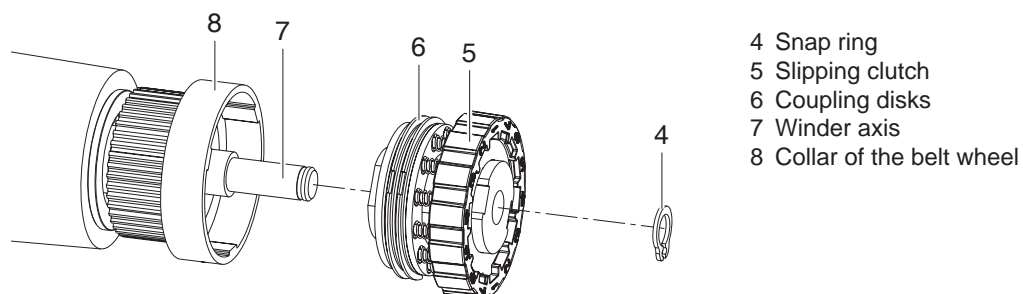
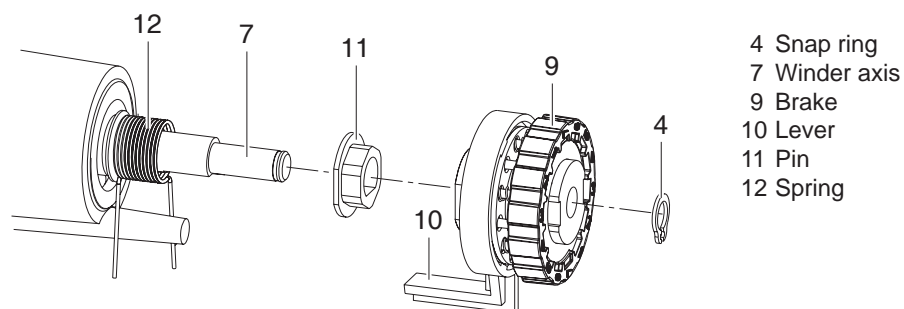

Fig. 12 Slipping clutch on the rewinders
Fig. 13 Brake on transfer ribbon supply hub
3. Remove the snap ring (1).
4. Pull coupling or brake (2) from the winder axis (Item 5 in Fig. 12) or (Item 9 in Fig. 13).
5. Ensure that the pin (Item 11 in Fig. 13) remains on the winder axis when pulling the brake off. Reattach the pin to the winder axis if it has been pulled off. The axis profile is shaped in such a way that the pin only fits on the winder axis in one way.